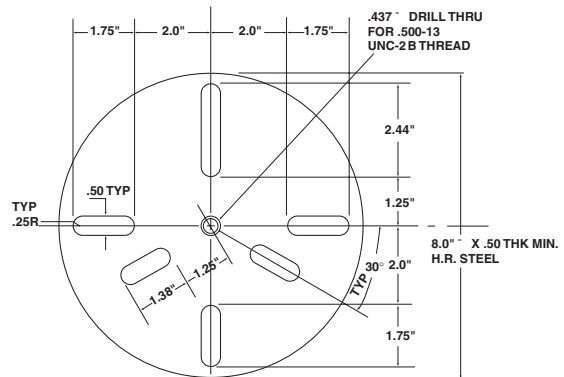

Figure 14: Dimensions for Universal Fixture (PN: AC2394)
6. Insert threaded rods into the tapped holes in the gland plate and install a fixture on the threaded rods to use a puller. See Figure 14 for Dimensions of Universal Fixture (PN: AC2394). Using the puller, tighten the bolt in the center of the fixture to remove the bearing and gland plate from the shaft. See Figures 15 and 16.
9. Insert threaded rods into the tapped holes in the gland plate and install a fixture on the threaded rods to use as a puller. See Figure 14 for dimensions of Universal Fixture. Using the puller, tighten the bolt in the center of the fixture to remove the bearing and gland plate from the shaft. If the bearing does not come off the shaft, insert a spacer between the center bolt and the shaft, and retighten the bolt. Remove the inboard bearing and gland plate in the same manner. See Figures 15 and 16.